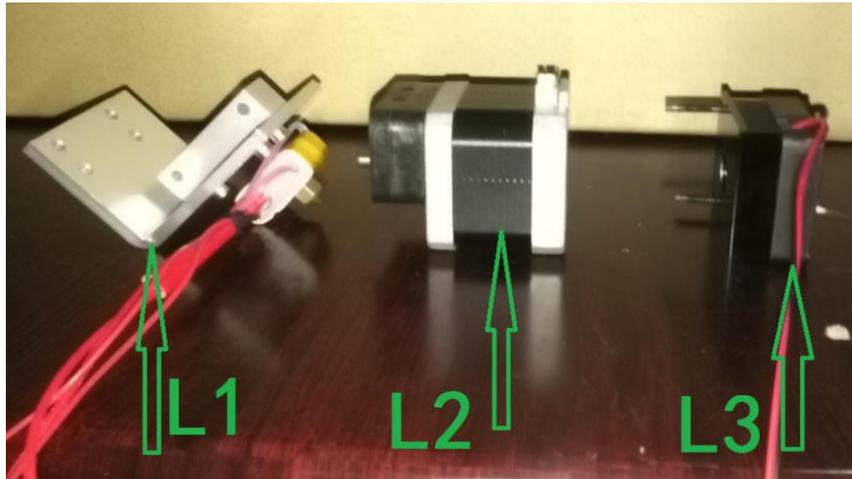
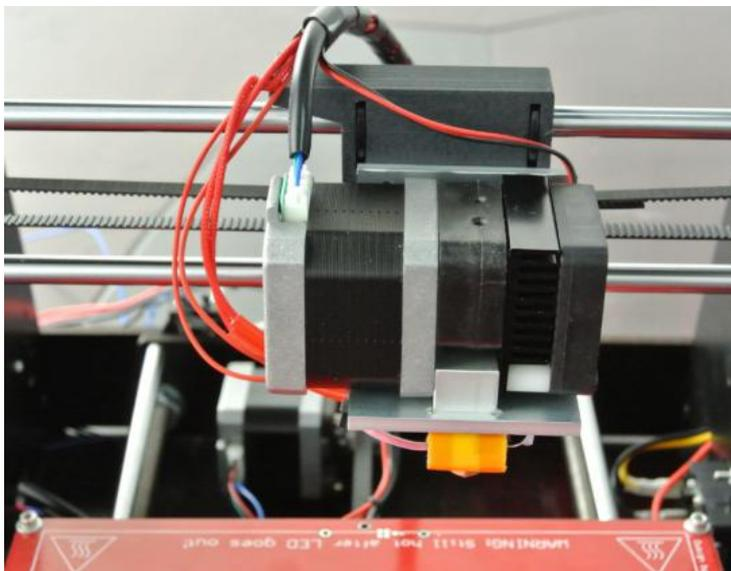

Figure 24
Figure 25
First unscrew cooling fan of nozzle, dismantle the L1, L2 and L3 parts of nozzle as shown in figure 24. **Install L1 part to the movable block in the middle of P assembly** with ⑥, ④ and ③. Please remember that first get screw ⑥ through the movable block in the middle of P assembly, then install the nozzle in the reverse order that these parts are dismantled, as instructed in figure 25. Connect motor of nozzle to port 10 of motherboard with long cable ⑲. Connect cooling fan cable to port 14 of motherboard 14. Connect power cable of nozzle to port 3 of motherboard. Connect temperature sensor of nozzle to the port 21 of motherboard.